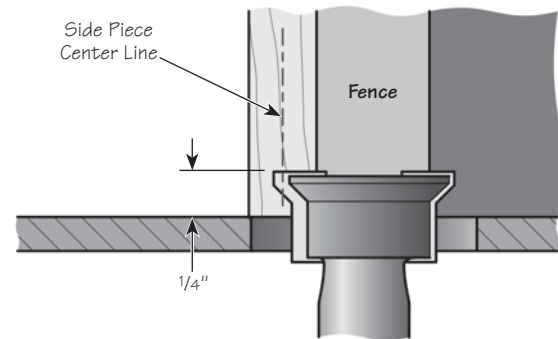

Figure 2: Setting the bit and fence.
2. Set the bit height to $\frac{1}{4}$ ". Position the fence so the center of the tapered cutting profile is aligned with the side workpiece center line, as shown in **Figure 2**. This can be set by eye or with the bit projecting one half the material thickness plus 0.05" (approx. $\frac{3}{64}$ "). Either way, the fit will be checked with test pieces.